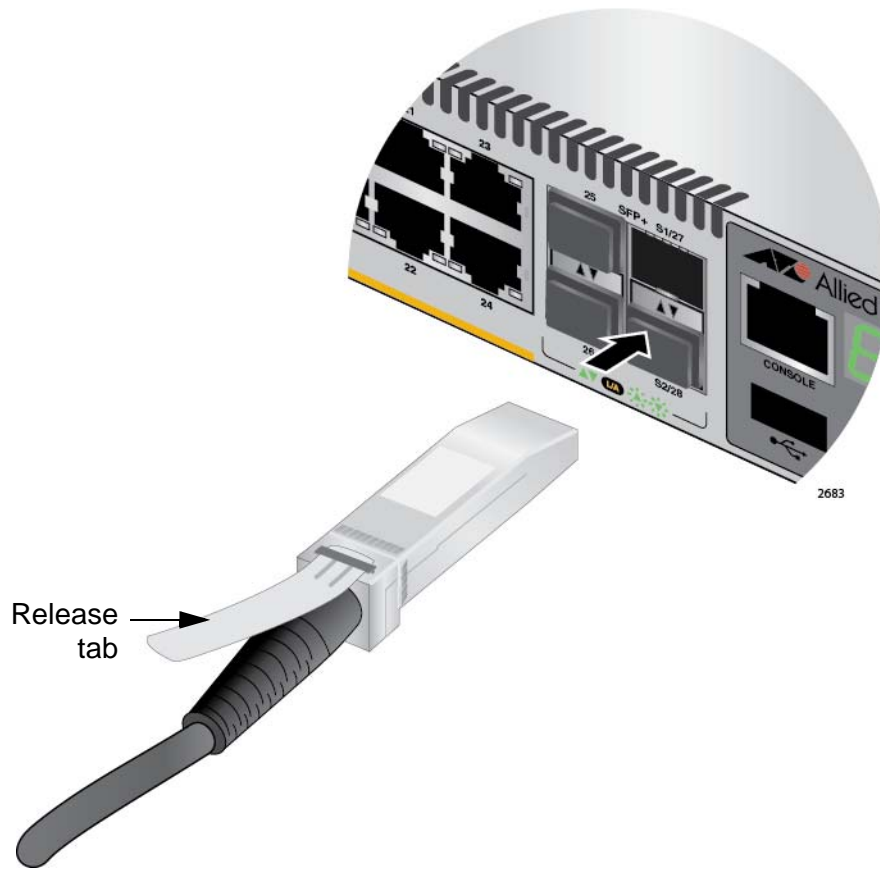

Figure 51. Installing a Direct Attach Cable in Slot S1
4. Position the transceiver with the release tab on top and slide the transceiver into the slot, as shown in Figure 51 on page 96.